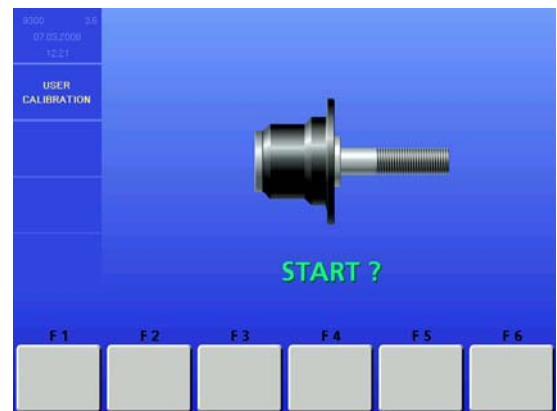

Figure 46
- 3a. Model 9300 should have bare shaft only, as shown in Figure 46.